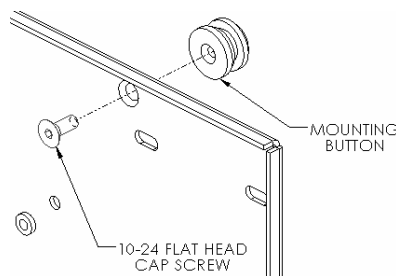
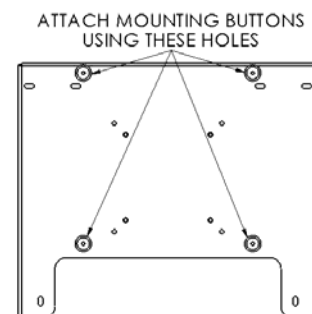
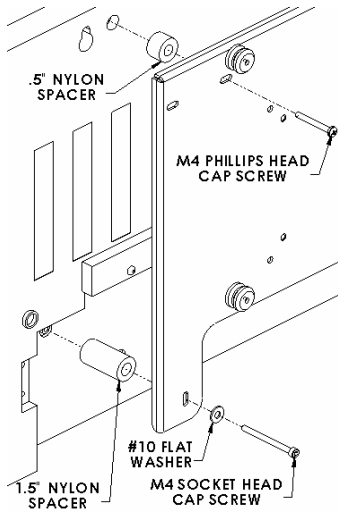

Figure 2
Figure 3
Figure 4
1. **Chief Q-latch Button Installation (Used with MSR, MTR, MWH, MWR, MCS and MCD mounts):** Using a 10-24 flat head cap screw inserted from back side of bracket, secure mounting button, with chamfered hole of mounting button (larger surface) facing bracket, to bracket (four places) (see Figure 2 & Figure3).
2. **Bracket Installation:** Remove screws from upper mounting holes on back of display. Place white nylon spacers on upper mounting holes and black nylon spacers on lower mounting holes, aligning hole pattern on brackets with pattern on back of display (see Figure 3 and Figure 4).